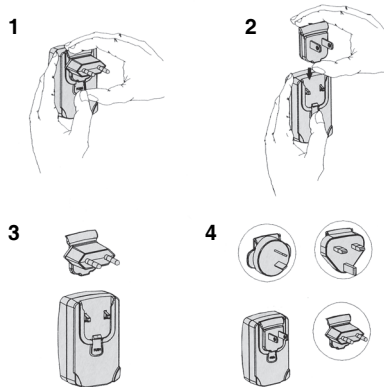

Fig. 1 Fitting the mains plug adapter
- ▶ See Fig. 1 and follow the instructions which are shown on the packaging of the mains plug adapter.